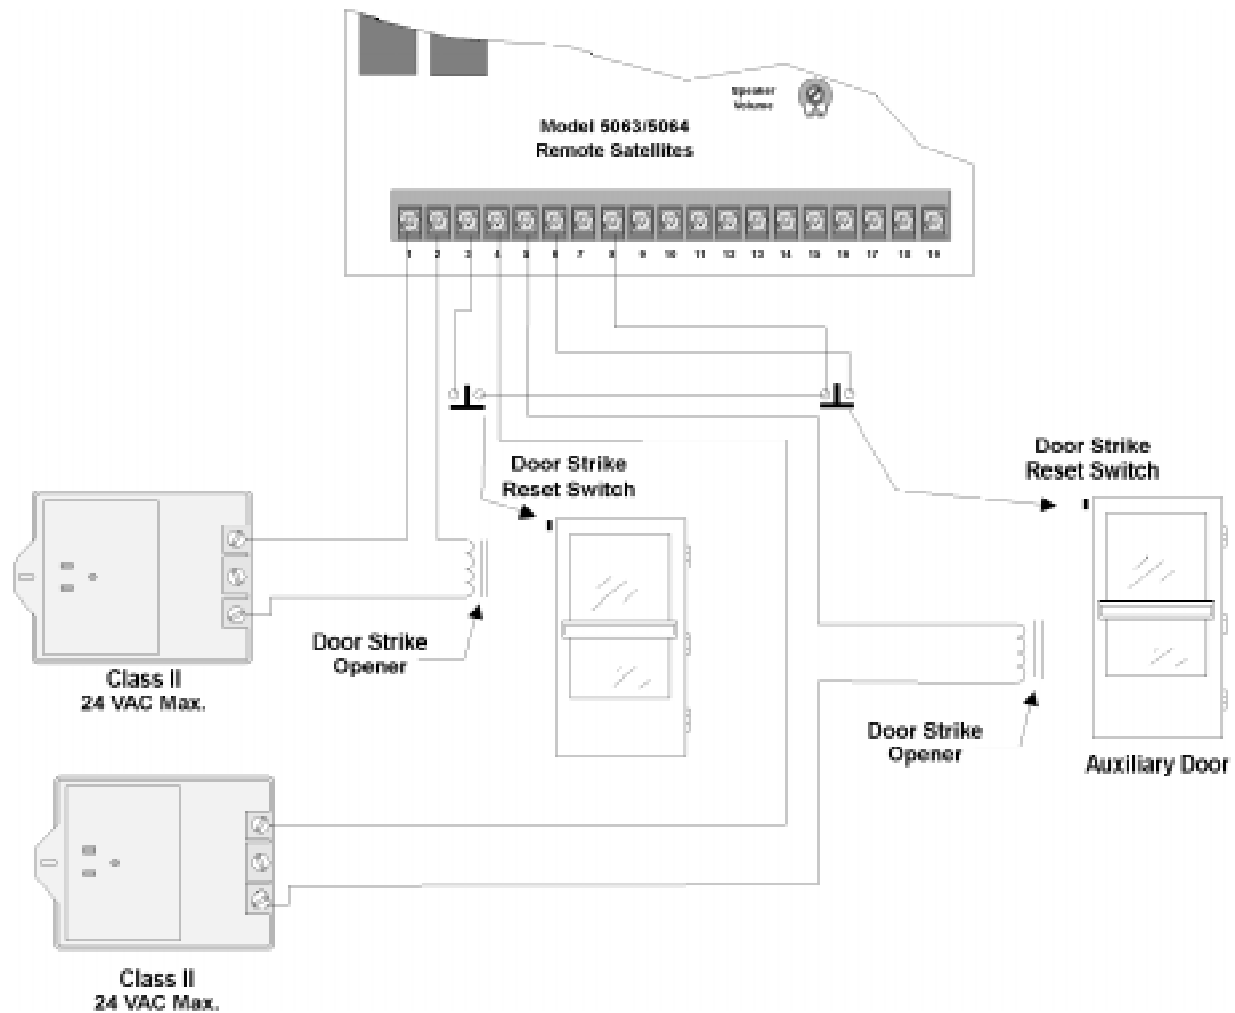

Figure 3-19: AC Doorstrike to 5063/5064 Wiring Diagram
2. Connect the doorstrike and transformer as shown in Figure 3-19. (Door contacts rated at 24VAC maximum.)